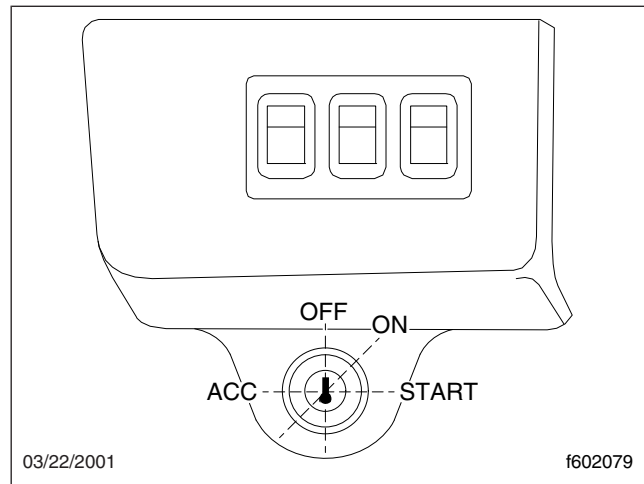

Fig. 7.7, Ignition Switch Positions
1. Turn the ignition switch to the on position. See Fig. 7.7. All the electronic gauges on the ICU (instrumentation control unit) complete a full sweep of their dials, the warning and indicator lights light up, and the buzzer sounds for 3 seconds.
1. Turn the ignition switch to the on position. See Fig. 7.7. All the electronic gauges on the ICU (instrumentation control unit) complete a full sweep of their dials, the warning and indicator lights light up, and the buzzer sounds for three seconds.
Turn the ignition switch to the on position. See Fig. 7.7.
The intake air preheater is activated by turning the ignition switch to the on position. See Fig. 7.7. If the engine is at normal temperature, the INTAKE HEATER indicator goes out after two seconds.